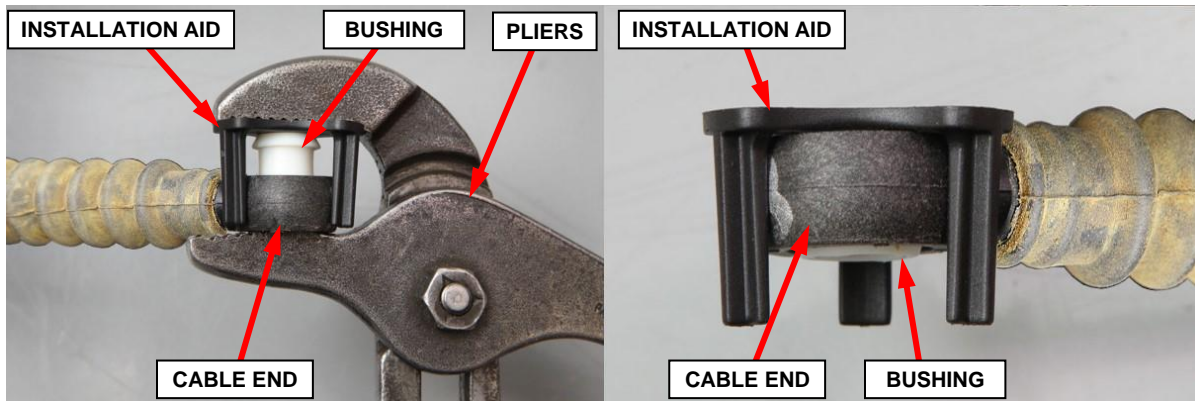

Figure 8 – Squeeze Installation Aid with New Bushing into Cable End
- Using pliers, squeeze the installation aid with new bushing into the cable end until fully seated (Figure 8).